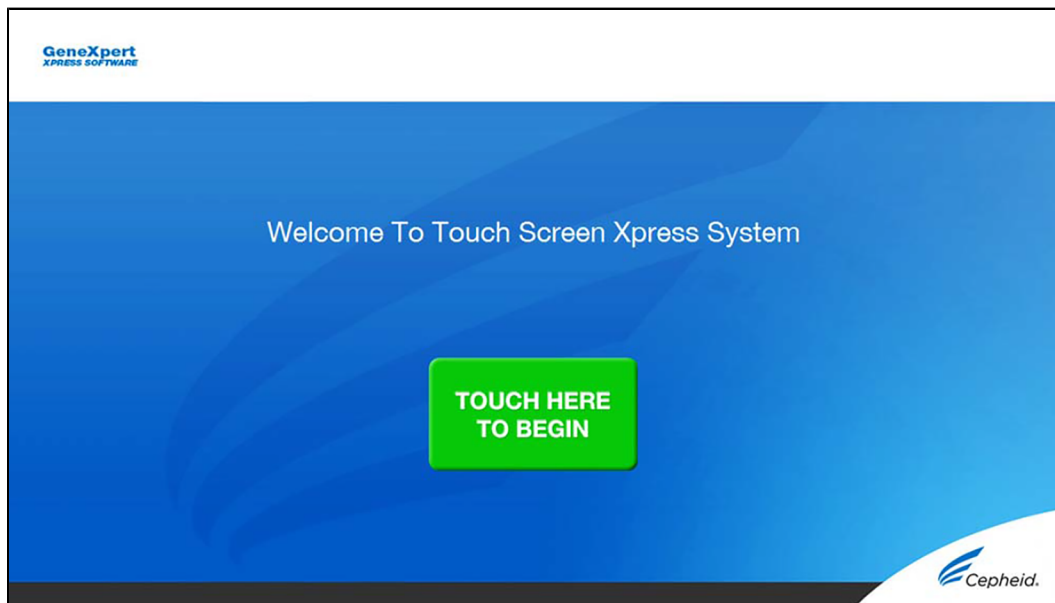

Figure 7. Welcome Screen
1. On the **Welcome** screen, touch the **TOUCH HERE TO BEGIN** button (see Figure 7).